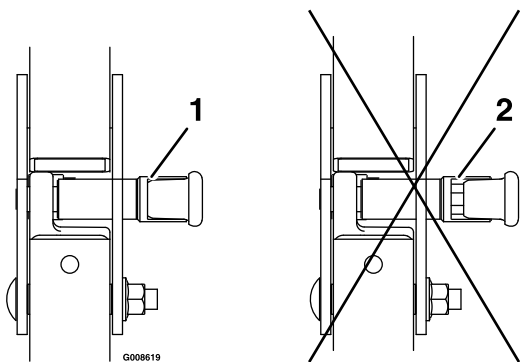

Figure 9
3. Push on the roll bar and ensure that both pins are engaged (Figure 9).